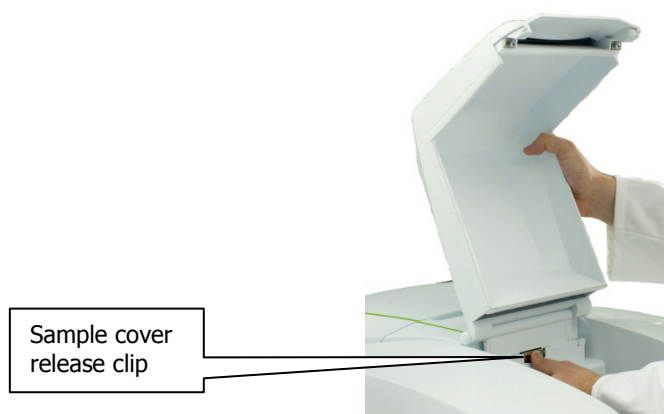

Figure 25 Removing the sample compartment cover
2. Remove the sample area cover, if fitted, by opening the cover, pressing the clip and pulling the cover vertically to remove (Figure 25).